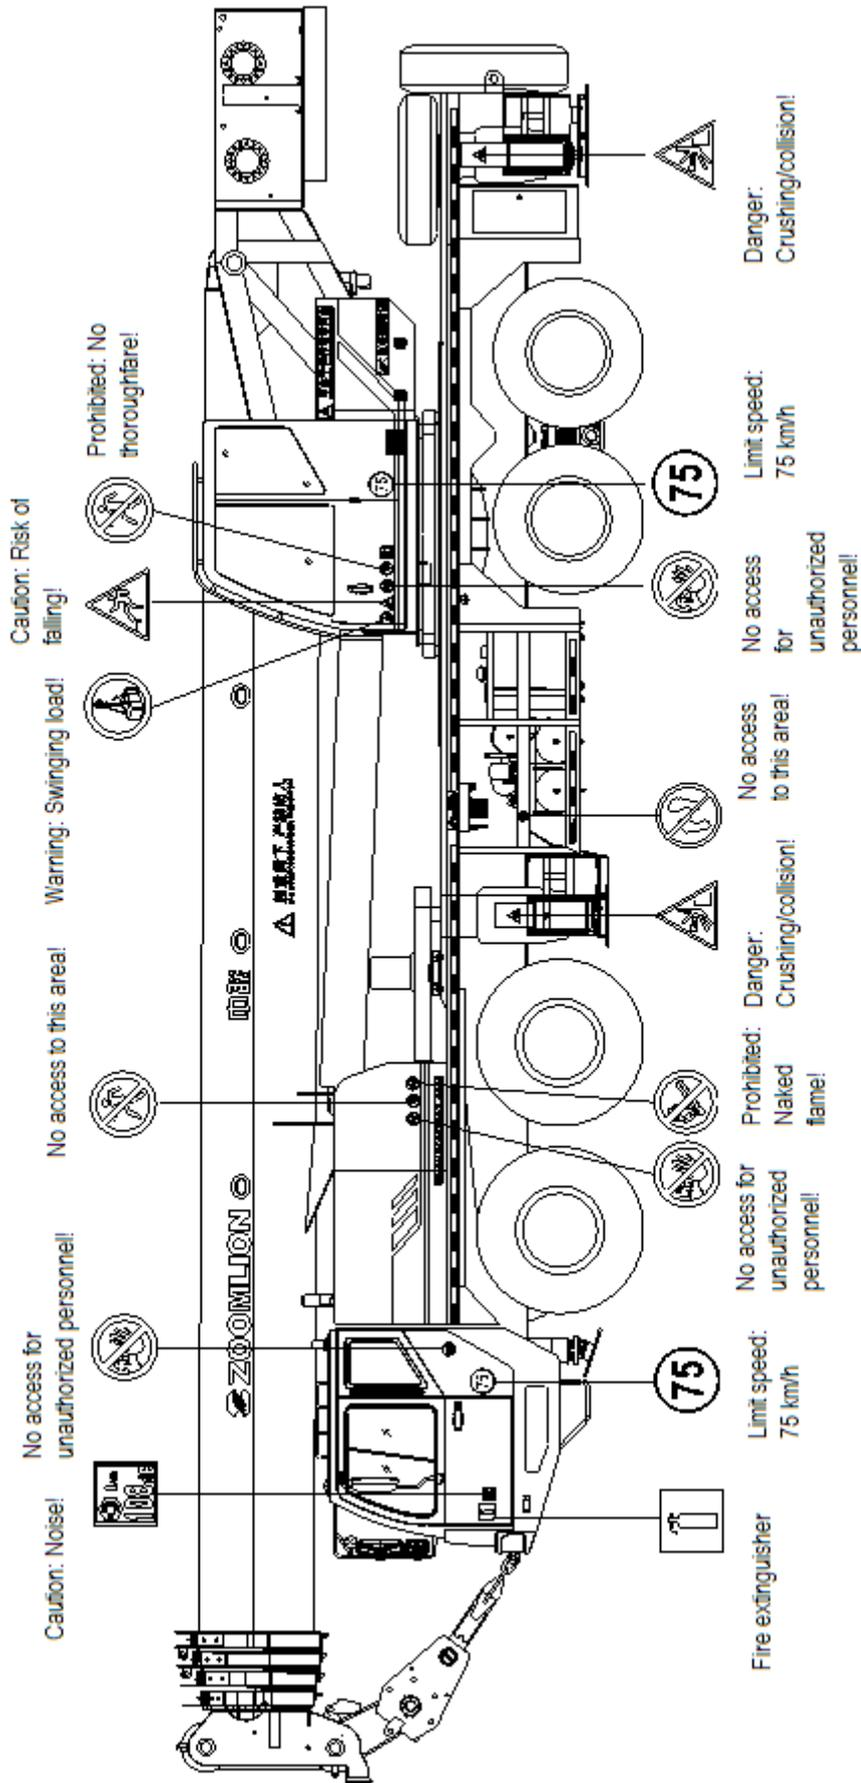

Figure 02 - 01
- a) The locations of safety signs are as shown in Figure 02 – 01.